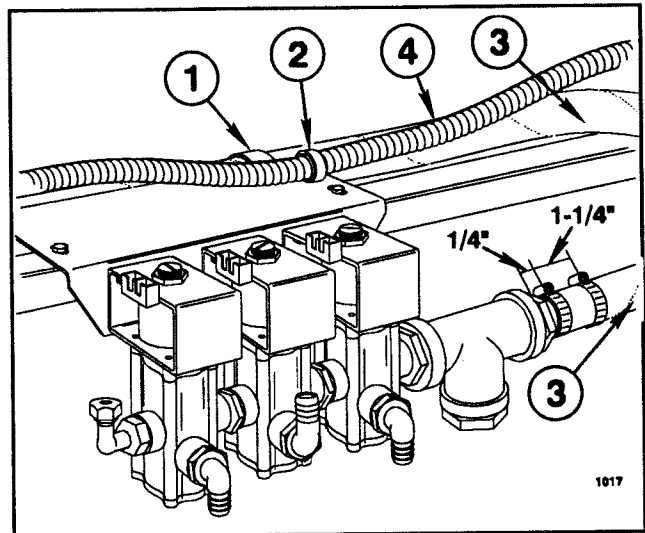

Figure 8
20. Attach the other end of the Boom Supply Hose to the hose barb in Tee at triple solenoid assembly. Secure with two hose clamps. One clamp at 1/4", and other clamp at 1-1/4" from hex head barb. (See FIG. 8)
21. Secure the Boom Supply Hose to the triple solenoid assembly using a large "R" clamp. (See FIG. 8)
22. Route wiring harness across rear of vehicle and secure to triple solenoid assembly with a small "R" clamp. (See FIG. 8)